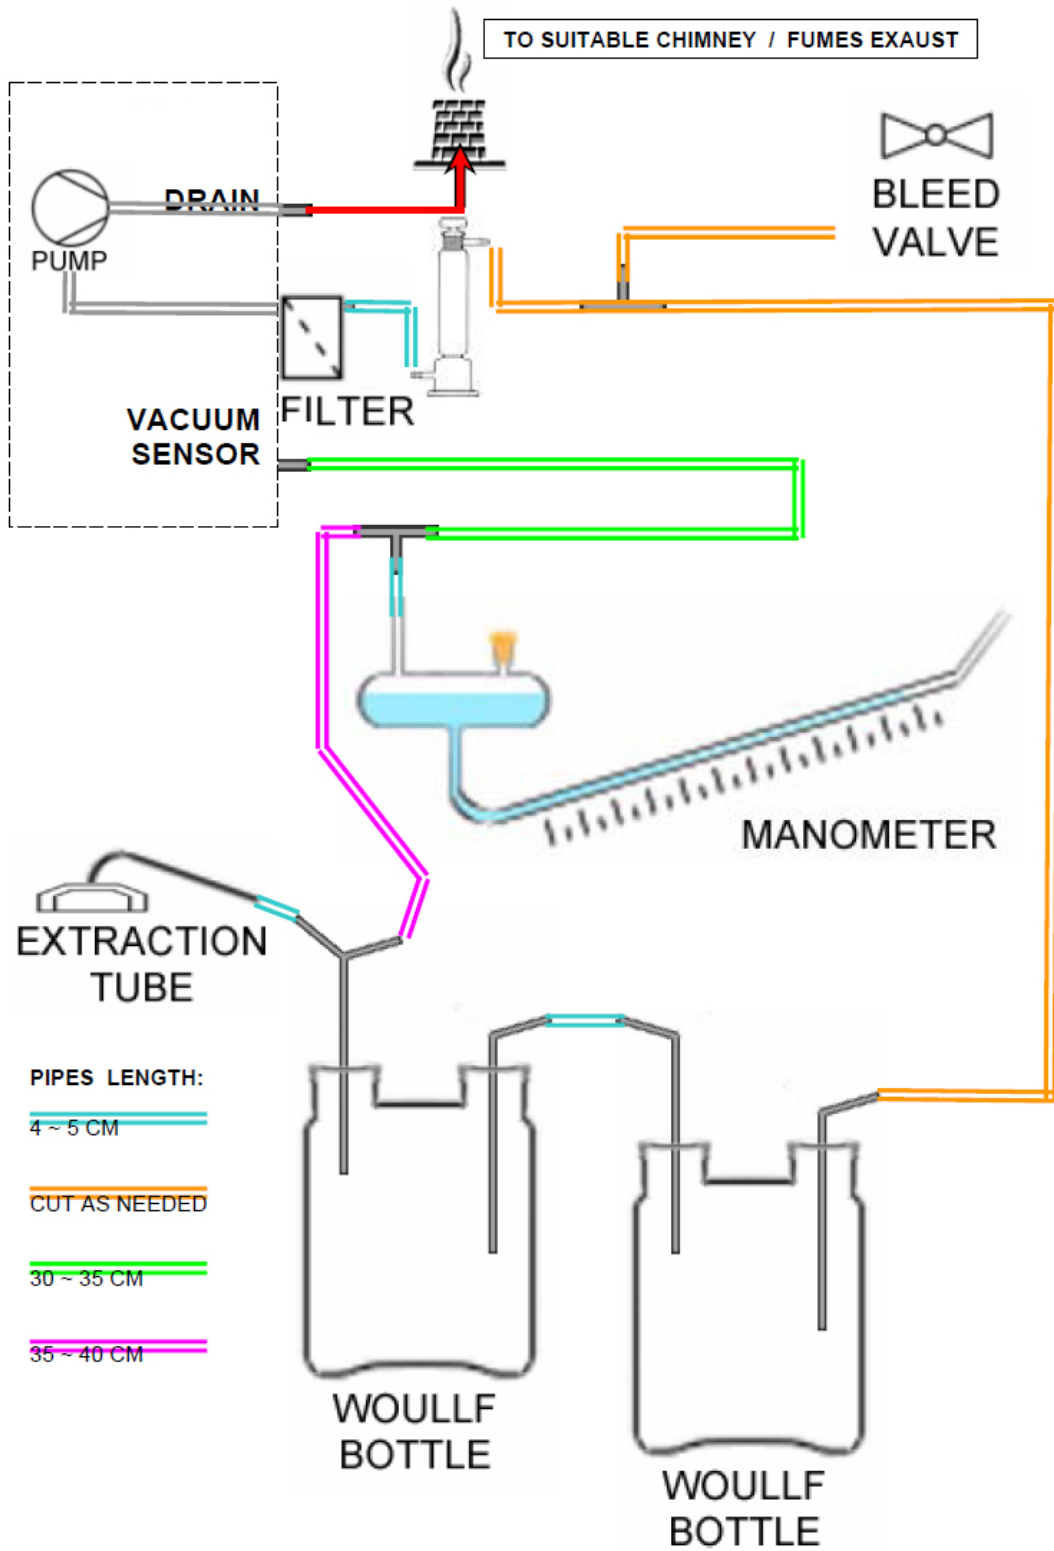

Figure 1: Piping Diagram
9. While the bath is heating, ensure the glassware is correctly set-up as shown on Page Figure 1, Page 6. Verify that the manometer is level and fill with water as needed so that the inclined scale reads zero. **Make sure the bleed valve is fully open.**
- Insert the crucible into the bath and connect the extraction tube to the Y shaped pipe on the Woulff bottle as illustrated on Page 6, Figure 1.